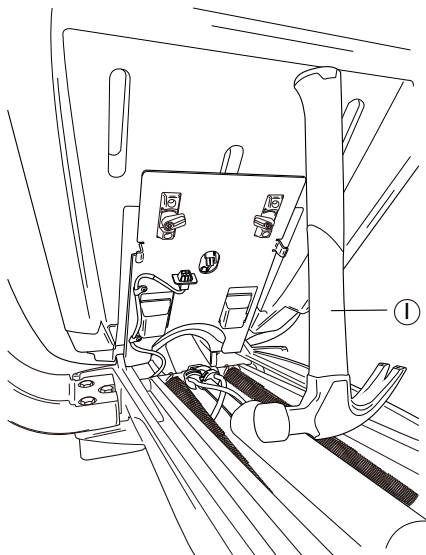

Figure 23. Lifting the seat
1. After assembling the upholstered seat to the chair, lift the seat and use a standard hammer (Figure 23, item 1) to hold the seat up as shown below.